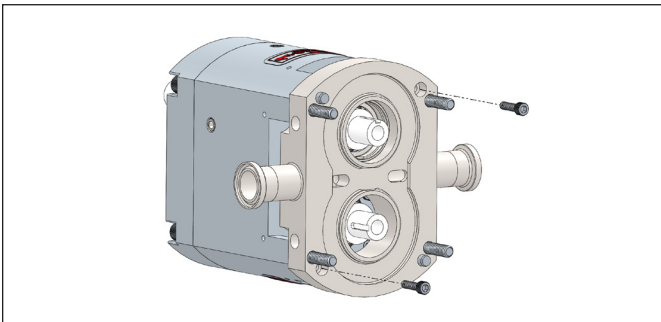

Figure 48. Installing Pump Body
1. Make sure all seal components are installed by following “Seal Maintenance” instructions provided on *page 24*. Ensure all dowels are in place and that all parts including body, rotors, and rotor nuts are clean and free of foreign matter. Slowly slide the body over the gear case studs and shafts, ensuring the seals are kept in place and not damaged (*Figure 48*). Install the two hold-down bolts and tighten the body against the gear case to ensure the dowels are engaged. Rotate the shafts to make sure there is no interference with the seals.